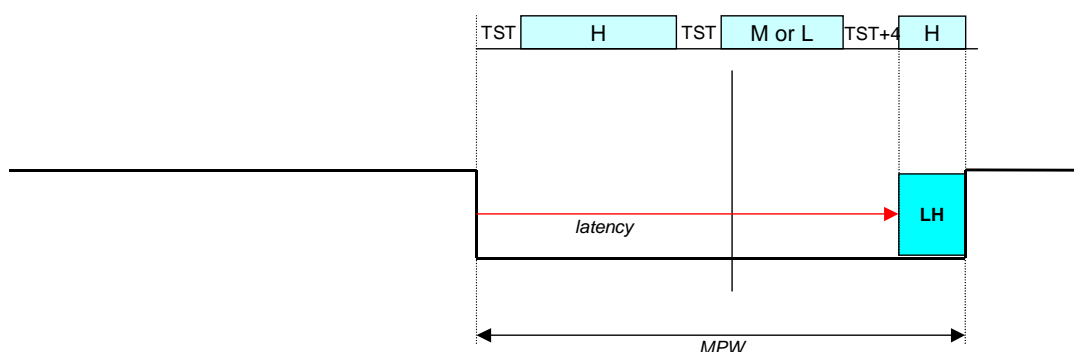

Figure 7. Worst case timing
In this instance, the worst case timing case that can happen is illustrated in Figure 7.
- Calculate *MPW* according to Figure 7.